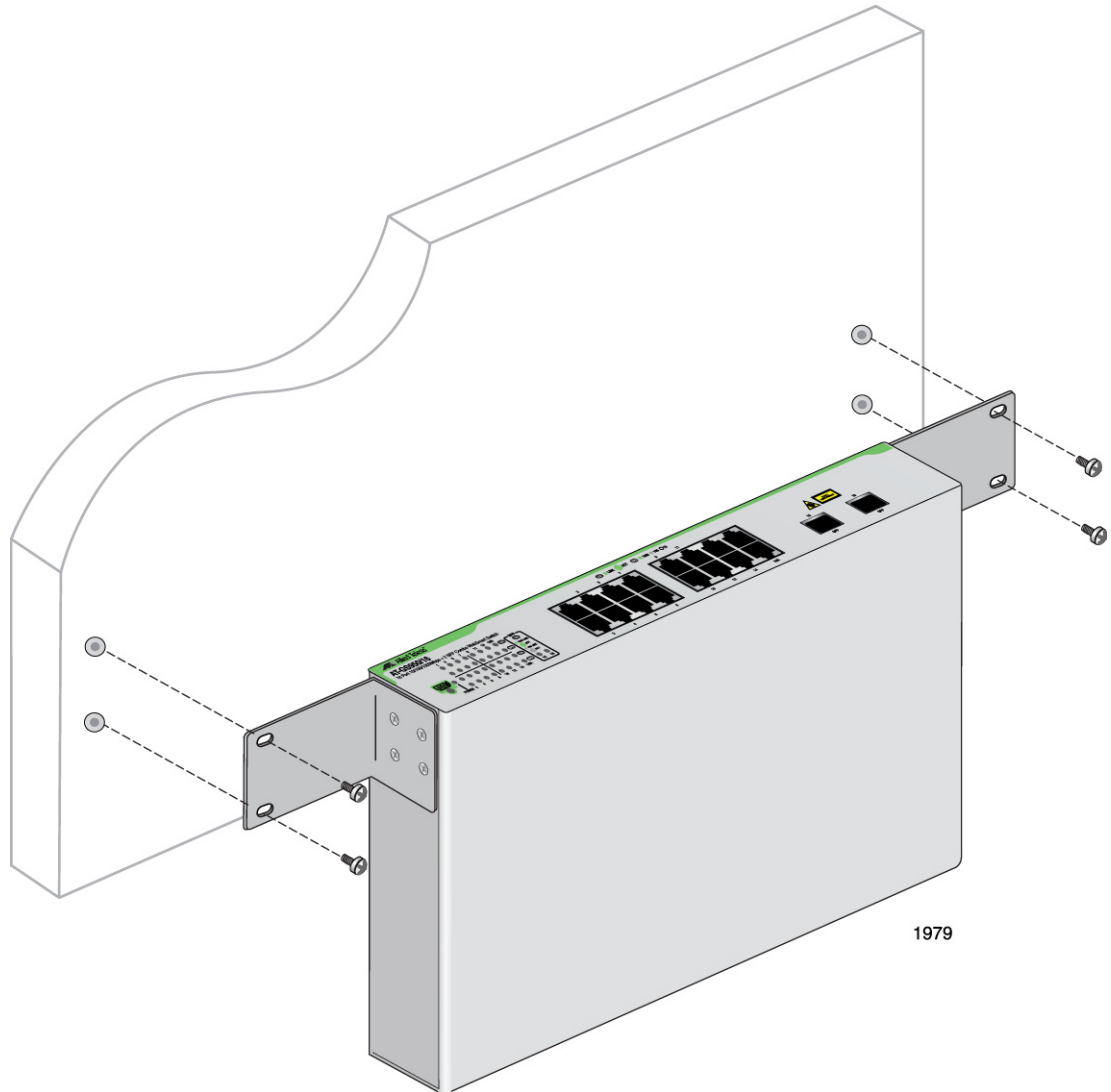

Figure 11. Securing the Switch to the Wall
6. While another person holds the switch at the wall location, secure it to the wall using the four wall mounting screws. See Figure 11 on page 41.